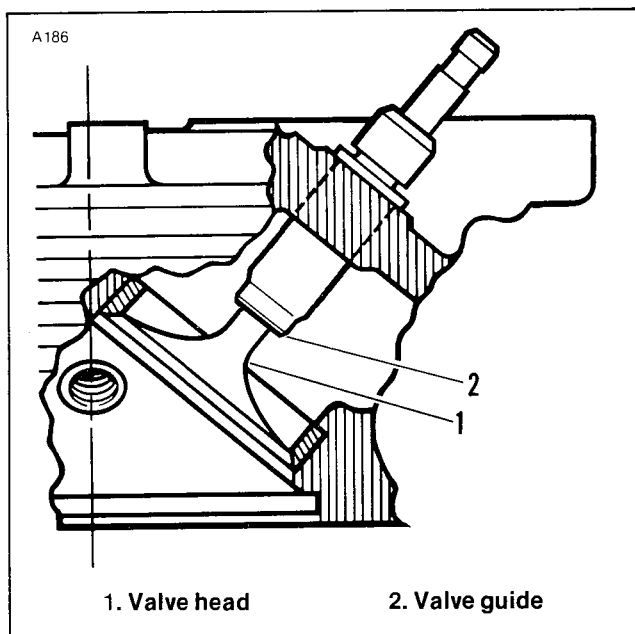

Figure 1. Valve Guide to Valve Head Clearance
After valve seat refacing on 1200cc and 1340cc engine cylinder heads, the clearance between the valve head (1) and the end of the exhaust valve guide (2) must be correctly gauged to prevent contact. See Figure 1.